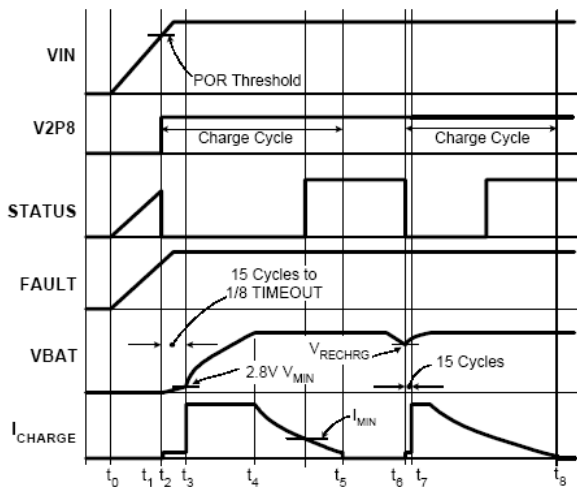

Figure 12. Operation waveform
The FP6900 resets itself as the input voltage rises above the POR rising threshold. The V2P8 pin outputs a 2.8V voltage, the internal oscillator starts to oscillate, the internal timer is reset, and the charger begins to charge the battery. The two indication pins, /STATUS and /FAULT, indicate a LOW and a HIGH logic signal respectively. Figure 12 illustrates the start up of the charger between t0 to t2. The FP6900 has a typical rising POR threshold of 3.5V and a falling POR threshold of 2.4V. The 2.4V falling threshold guarantees charger operation with a current limited adapter to minimize the thermal dissipation.
There are 3 charge modes in a charge cycle: trickle mode, constant current (CC) mode, and constant voltage (CV) mode. The charge cycle always starts with the trickle mode until the battery voltage stays above VMIN (2.8V typical) for 15 consecutive cycles of the internal oscillator. If the battery voltage drops below VMIN during the 15 cycles, the 15-cycle counter is reset and the charger stays in the trickle mode. The charger proceeds to the CC mode after verifying the battery voltage. As the battery-pack terminal voltage rises to the final charge voltage VCH, the CV mode begins. The terminal voltage is regulated at the constant VCH in the CV mode and the charge current is expected to decline. When the charge current drops below IMIN (1/10 of IREF, see End-of-Charge Current for more detail), the FP6900 indicates the end-of-charge (EOC) with the /STATUS pin. The charging actually does not terminate until the internal timer completes its length of TIMEOUT in order to bring the battery to its full capacity. Signals in a charge cycle are illustrated in Figure 12 between points t2 to t5:
After a charge cycle completes, charging is prohibited until the battery voltage drops to a recharge threshold,  $V_{RECHRG}$  (see Electrical specifications). Then a new charge cycle starts at point  $t_6$  and ends at point  $t_8$ , as shown in Figure 12. The safety timer is reset at  $t_6$ .
The trickle mode charge has a time limit of 1/8 TIMEOUT. If the battery voltage does not reach  $V_{MIN}$  within this limit, a TIMEOUT fault is issued and the charger latches up. The charger stays in trickle mode for at least 15 cycles of the internal oscillator and, at most, 1/8 of TIMEOUT, as shown in Figure 12. For the FP6900B, FP6900C and the FP6900D, the timeout function is always enforced.
The EOC current  $I_{MIN}$  sets the level at which the charger starts to indicate the end of the charge with the /STATUS pin, as shown in Figure 12. The charger actually does not terminate charging until the end of the TIMEOUT, as described in the Total Charge Time section. In the FP6900, the EOC current is internally set to 1/10 of the CC charge current that is: